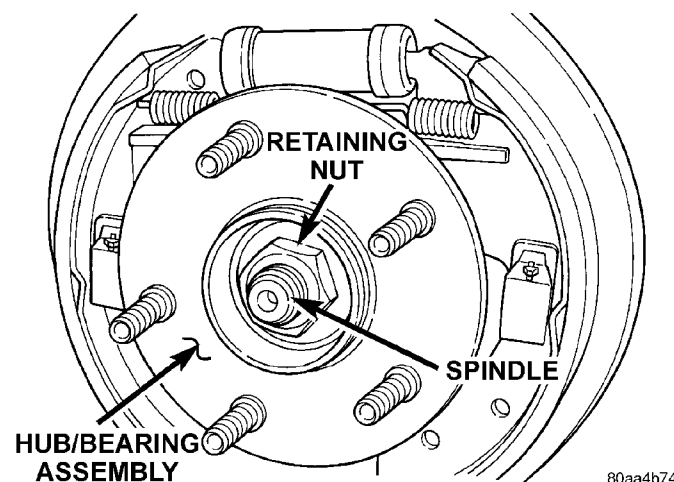

Fig. 91 Rear Hub/ Bearing Retaining Nut
(4) Remove the retaining nut (Fig. 91) holding the rear hub/bearing to the spindle. Remove the hub/ bearing from the spindle.
(1) Install brake support plate and gasket on rear suspension knuckle casting. Torque support plate to knuckle casting attaching bolts to 75 N·m (55 ft. lbs.).
(2) Insert parking brake cable end fitting into brake support plate.
(3) Hand start hydraulic brake hose tube fitting to wheel cylinder. Torque tube nut to wheel cylinder fitting to 17 N·m (145 in. lbs.).
(4) Attach parking brake cable to the parking brake actuator.
(5) Install rear brake shoe assemblies on the brake support plate. Refer to Rear Brake Shoes in the Removal And Installation Section in this group of the service manual for the proper brake shoe assembly installation procedure.
(6) Install rear hub and bearing assembly on rear spindle. Install a **NEW** hub and bearing assembly retaining nut (Fig. 91). Torque hub and bearing assembly retaining nut to 217 N·m (160 ft. lbs.). Install dust cap.
(7) Adjust brake shoes assemblies so as not to interfere with brake drum installation.
(8) Install brake drum. Adjust and bleed service brakes.
(9) After brake drums are installed, pump brake pedal several times to do final adjustment of the brake shoe assemblies.
(10) Install the wheel and tire assembly. Tighten the wheel mounting stud nuts in proper sequence until all nuts are torqued to half specification. Then repeat the tightening sequence to the full specified torque of 135 N·m (100 ft. lbs.).